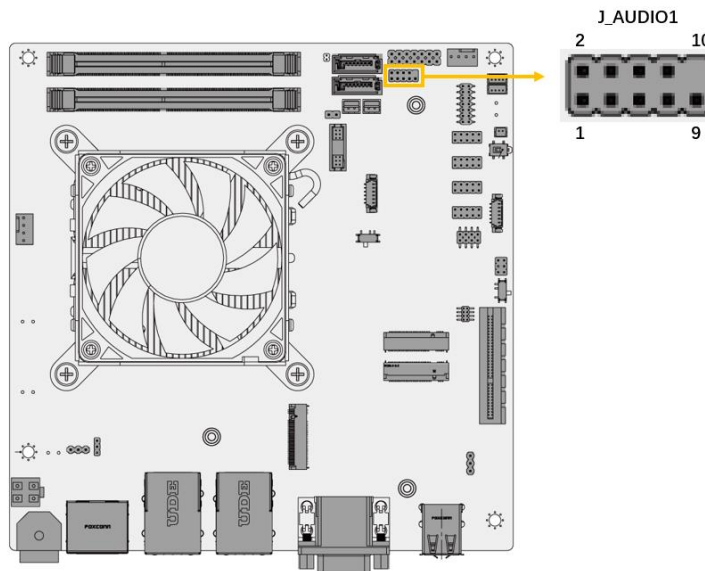

Figure 3-12: Audio Connector Location
- CN Location:** See Figure 3-12